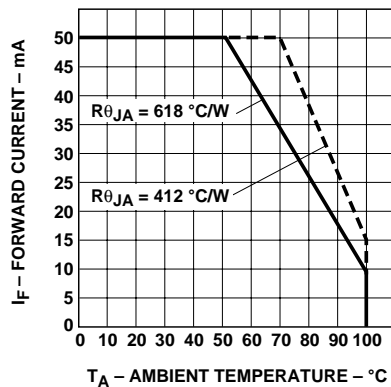

Figure 4. Maximum forward current vs. ambient temperature. Derating based on $T_{Max} = 110^\circ\text{C}$.
- Derate linearly as shown in Figure 4.